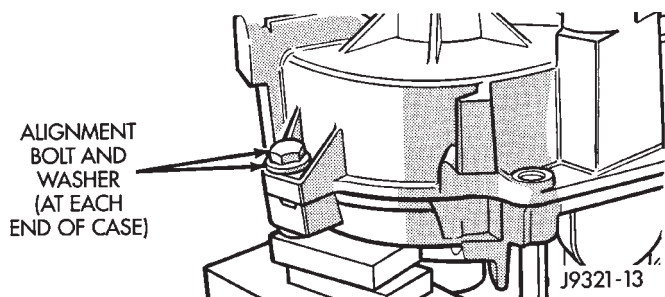

Fig. 73 Alignment Bolt Location
(8) Install case attaching bolts. Alignment bolts at each end of case are only ones requiring washers (Fig. 73).
(9) Tighten case bolts to 27-34 N·m (20-25 ft. lbs.) torque.